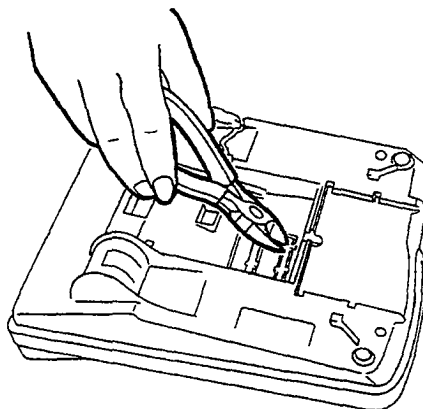

Figure 4-58 Removing the Knockouts to Install ADA(1)-W (BK)/(SW) Unit or ADA(2)-W (BK)/(SW) Unit
3. Remove the knockout (second from the top) on the bottom of the multiline terminal. Refer to Figure 4-58 - Removing the Knockouts to Install ADA(1)-W (BK)/(SW) Unit or ADA(2)-W (BK)/(SW) Unit.